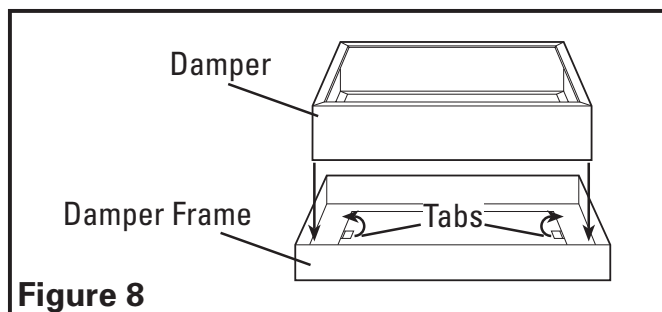

Figure 8
2. Position the damper inside of the damper frame and secure the damper by bending the two tabs up and around the lip of the damper (**Figure 8**).